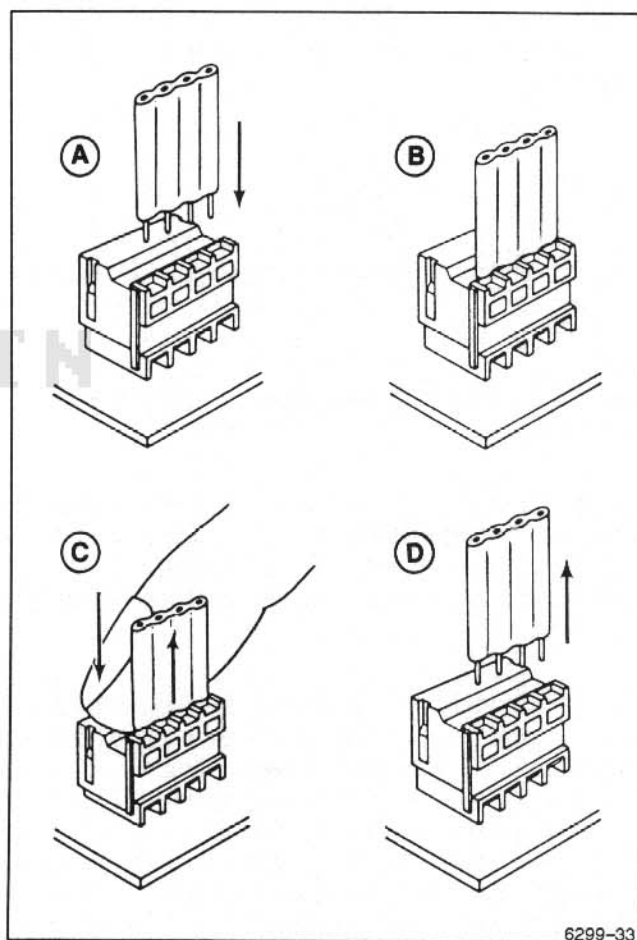

Figure 6-1. Multi-connector operation.
The multipin connectors of the 2225 are designed to make the interboard connections directly to the ribbon cables. Insert the trimmed ribbon-cable wires into the connector slots (see Figure 6-1 A). Pressing down on the release bar (the top of the connector) with your fingertip will make it easier to push the wires into the connector (see Figure 6-1
C). The cable locks firmly into the connector (Figure 6-1 B) when the pressure is removed from the release bar. To disconnect the ribbon cable from the connector, press down on the release bar and lift the cable out of the connector (see Figure 6-1 C and D). The ribbon cable wire should be evenly trimmed to expose 5 mm of wire (about 1/4 inch) for correct insertion into the connectors.
Interconnections in this instrument are made with wire-trap connectors soldered onto the circuit boards. If any individual wire in the cable is faulty, the entire cable assembly should be replaced. To remove a cable from a wire-trap connector, press down on top of the connector and lift out cable. Reinstallation is the reverse of this procedure. To provide correct orientation of a cable, a number "1" is stamped on the circuit board. The cable is either color-coded, so the index is the brown wire, or the index wire is striped a different color than the rest of the cable. Be sure the index wire is aligned with the "1" when a cable is reinserted into the connector (see Figure 6-1, shown previously).